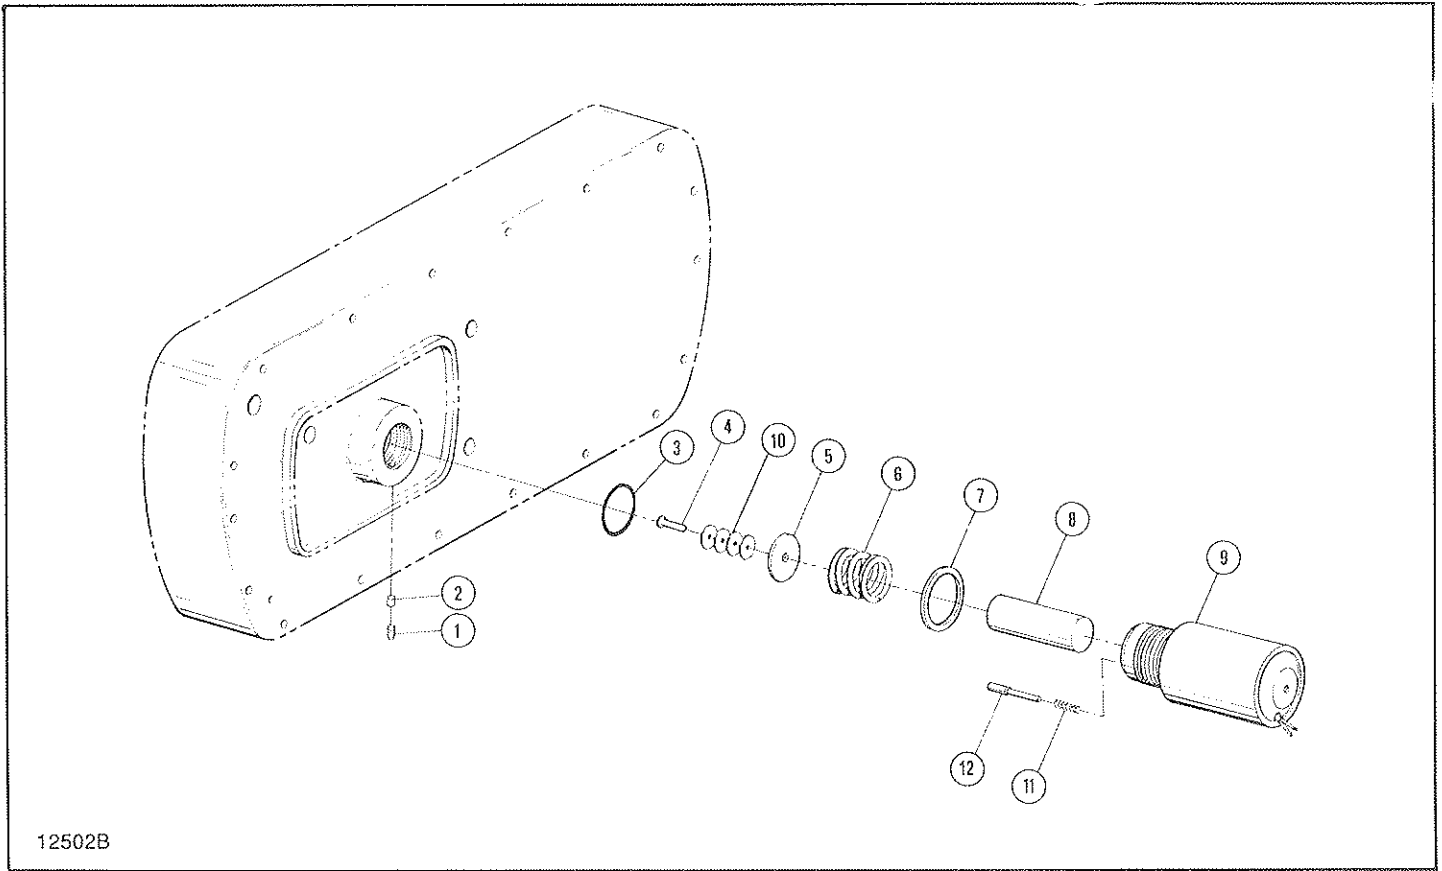

Figure 6-2. Motor Brake Actuating Mechanism.
In addition to the adjustment instructions below motor brake adjustment instructions may also be found inside the brake cover. Refer to Figure 6-2 and proceed as follows:
- b. Loosen set screw at gearcase cover (Ref. No. 1 in Figure 6-2).